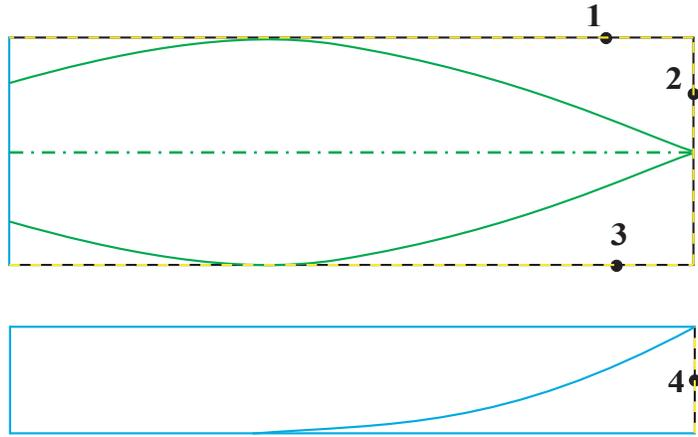

Fig. 15
Step 1. Lines 1, 2, 3 and 4 are no longer needed, **Fig. 15**. Click to select lines to delete and press Delete key.